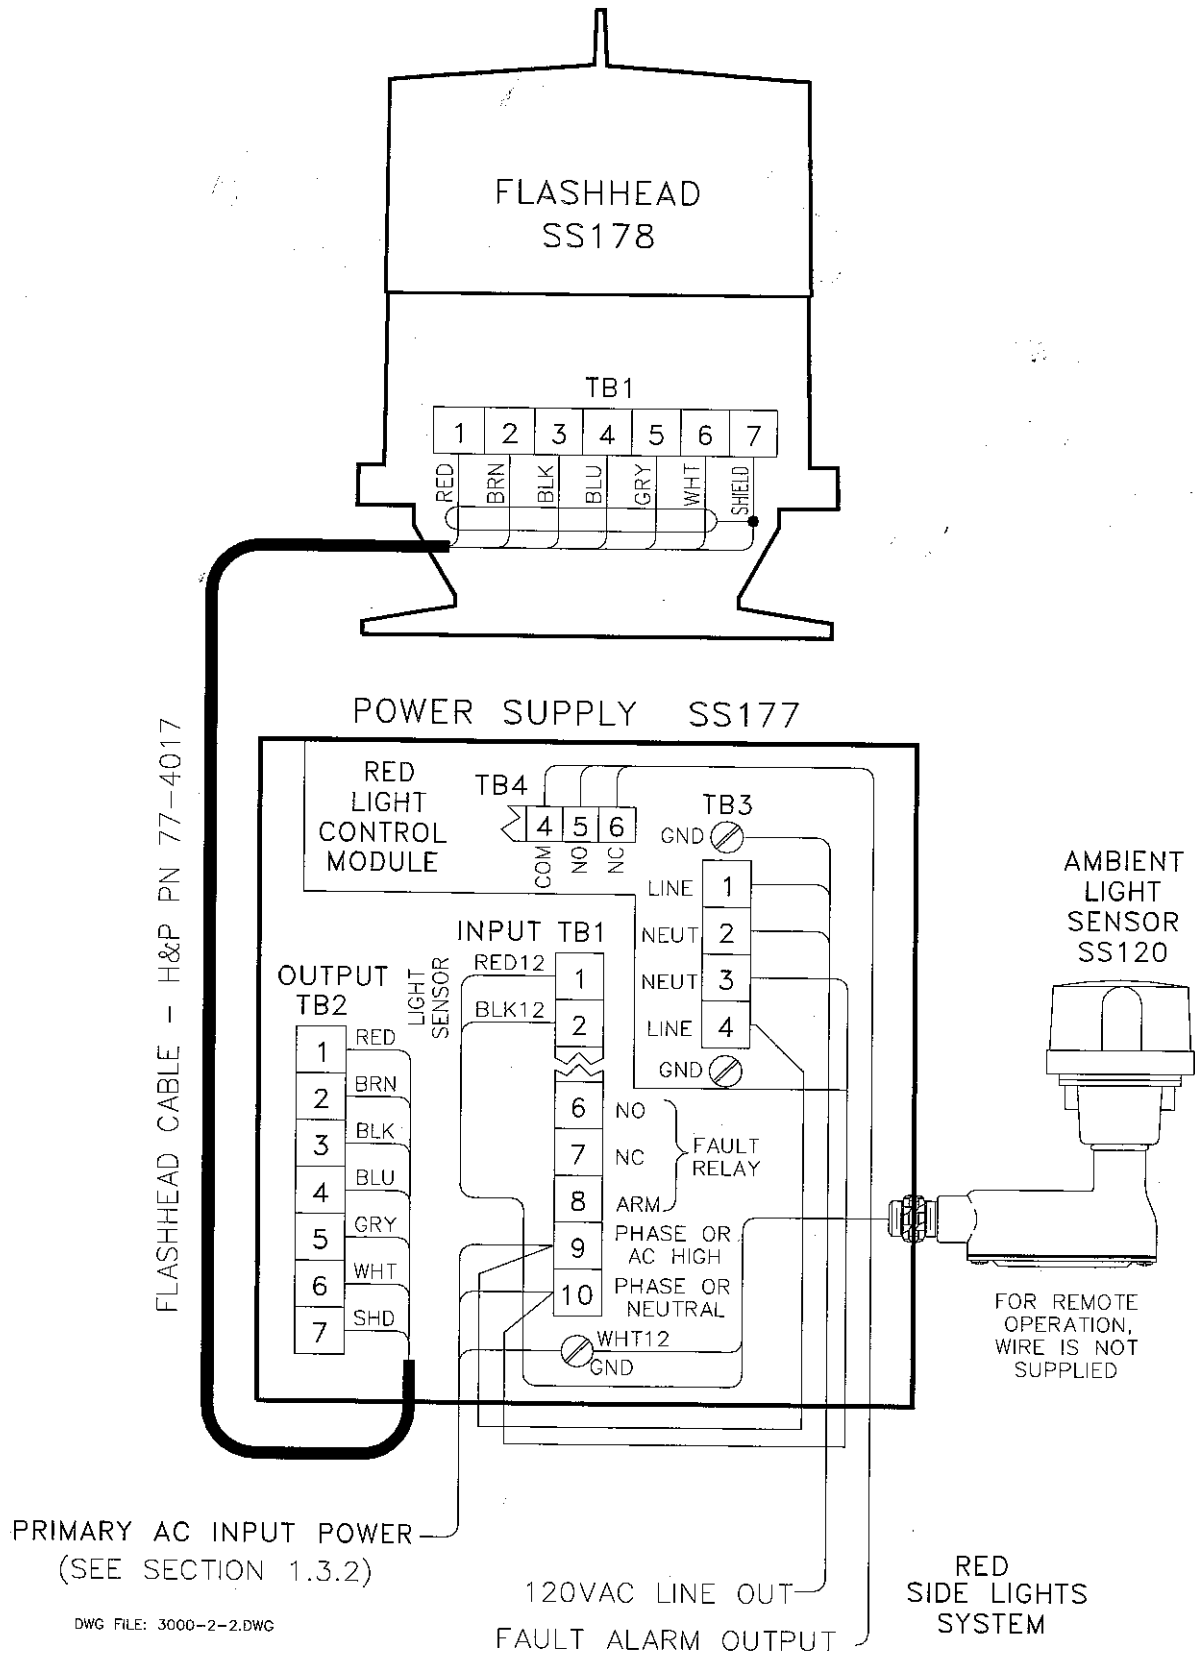

Figure 2-2. INSTALLATION WIRING FOR STAND-ALONE UNIT
STEP1 - Make all the interconnects between the flashhead and the power supply using H&P supplied cable (77-4017). The wires in this cable are color coded and are connected to the numbered terminals of **TB1 in the flashhead** and the corresponding numbered terminals of **TB2 in the power supply** per *Figure 2-2(Page 13)*.
STEP2 - Make the interconnects between the steady burning red side lights and power supply using the H&P supplied cable (WC01012CLOT or equivalent #12awg cord). The wires in this cable are connected to the numbered terminals of **TB3** *Figure 2-2* as follows:
STEP3 - Make the interconnects between the external photocell and the power supply using # 12 AWG wire. The wires in this cable are connected to **TB1** per *Figure 2-2* as follows.
STEP5 - Make the connections for Incoming Power to **TB1 in the Power Supply** per *Figure 2-2* as follows. The wires or cable needed are NOT supplied.